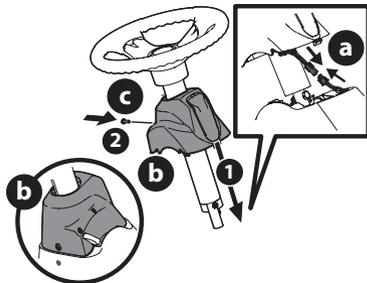

Figure 3
6. Remove the pedestal cap mount screw (factory installed) (c) located on the riding mower's steering console. Retain the screw for later instructions (Figure 3).
7. Connect the headlight wire terminals (a) (if present). Slide the pedestal cap (b) down onto the riding mower and slightly rotate to the right to clip into place. Secure the pedestal cap (b) with the screw (c) previously removed (Figure 3 on page 9).